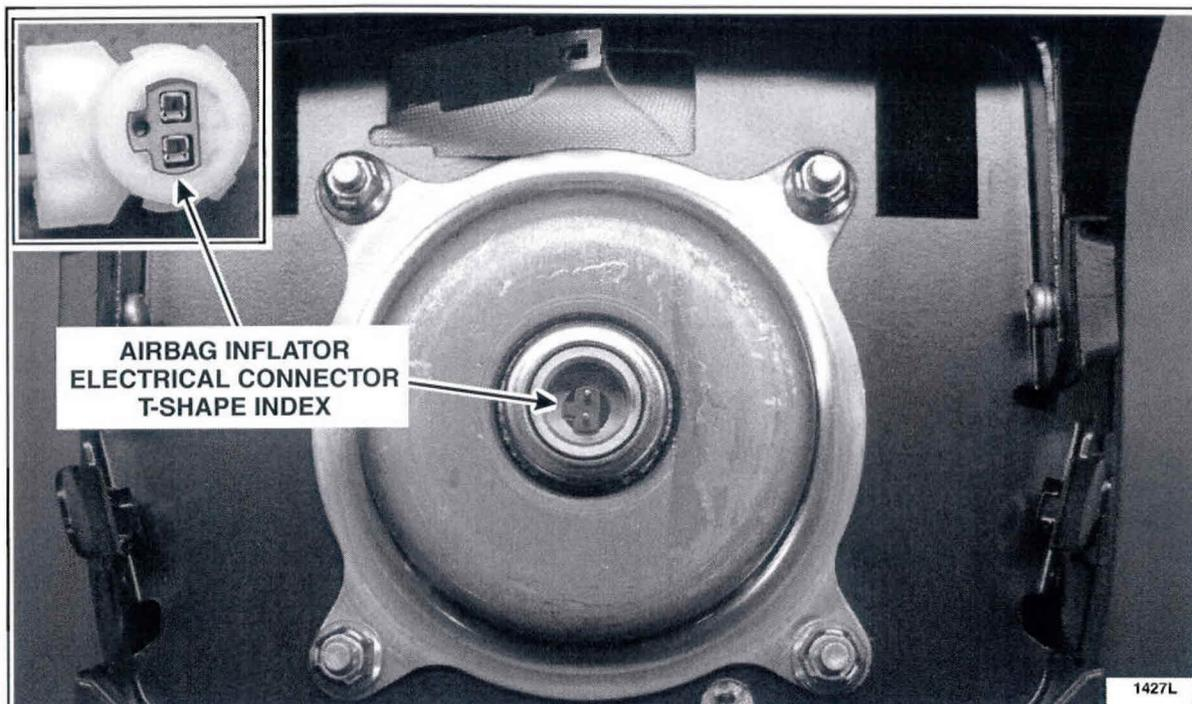

FIGURE 2
7. **NOTE:** Line up the T-shape index on both the wiring harness electrical connector and the airbag inflator. Pull gently on the wiring harness to ensure it is properly seated. See Figure 2.